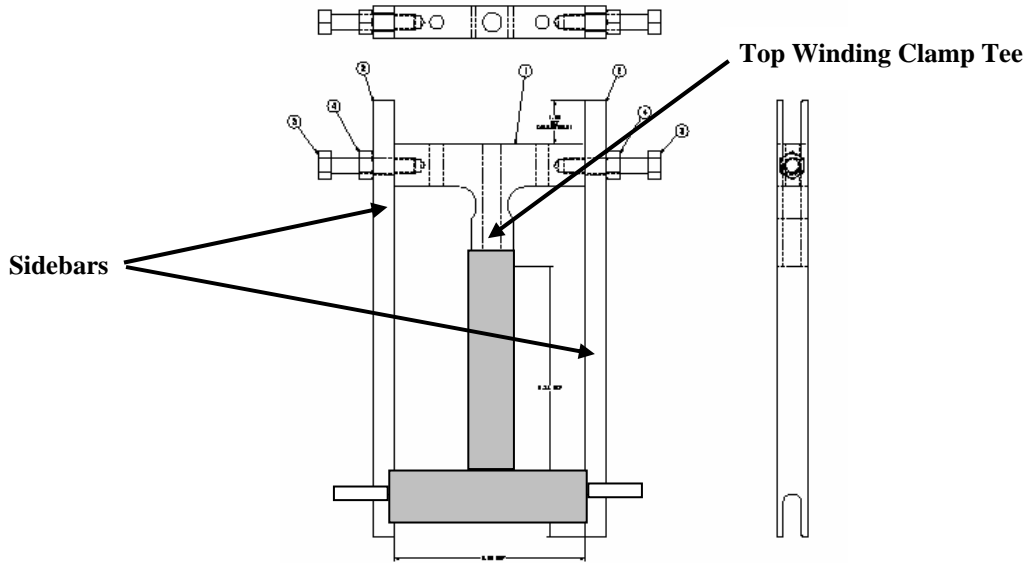

Figure 17- Winding Clamps
Mount the top tee section of the winding clamps to the MCWF as shown in Figure 17- Winding Clamps. The clamps are located approximately every 3 inches along the entire length of the MCWF. Secure the winding clamp tee to the top of the septum using the appropriate hardware. Use the (2) side bars to assist in the positioning of the top section, but do not leave in place.